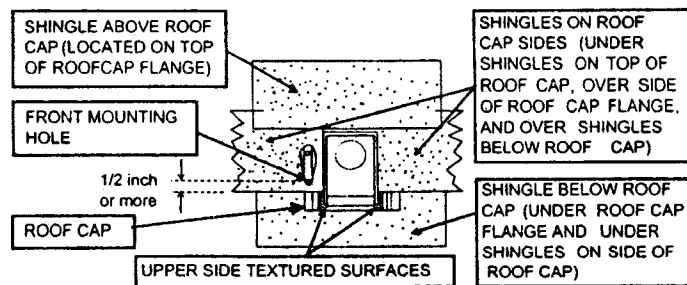

Figure 2. Shingle Placement
- c. Shingles should be positioned relative to the roof cap, as shown in Figure 2.
4. If not already accomplished, lay the shingle(s) that will lie under the front of the roof cap flange. (See Figure 2.)
10. Cut or size the shingles that will cover the sides of the roof cap flange, making certain that the leading edge of the shingles will overhang the flange's front mounting nail holes or slots by at least 1/2-inch when the shingle courses are laid. (See Figure 2.) Make certain that, when installed, the shingles will fully cover the mounting nails in order to avoid future rust bleeding onto shingles. If any nail head or portion of a nail head cannot be covered, coat it with asphalt cement.